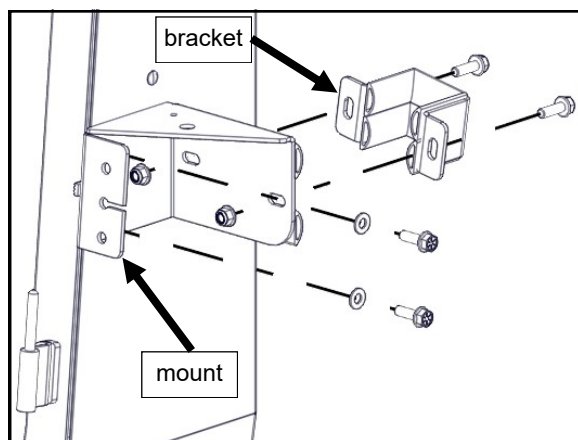

Fig. 7.1 (Left ROPS Bracket Installation)
**7.1** Install Left ROPS mount onto left sideframe (through rear leg if premium cab). Next, install ROPS bracket onto mount—no plastic washer on bracket. See fig. 7.1.